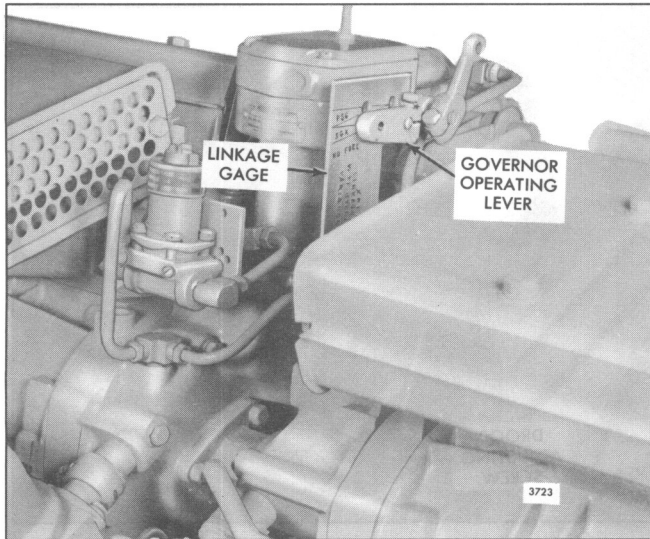

Fig. 6 – Positioning Governor Operating Lever
12. Replace the governor operating lever on the serrated shaft so that the bolt hole is lined up within the proper lines on the gage. The type of governor (SGX or PSG) will determine the proper position of the lever (Fig. 6).